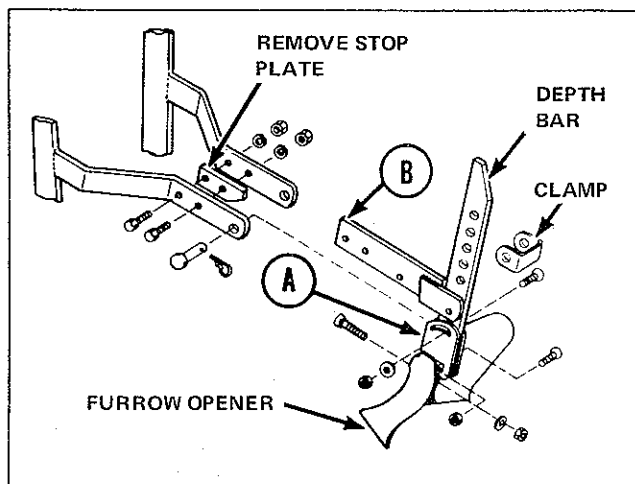

Figure 15. Furrow Opener (Accessory)
1. Remove the depth bar, turn it upside down and bolt it to the tool holder (A, Figure 15) with the carriage bolts, washers and nuts provided.
2. Remove the stop plate from between the frame supports and install the extension support (B) with the old hardware.